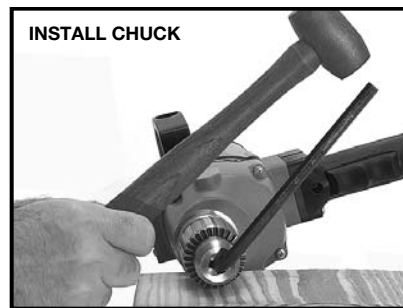

Fig. 6
5. **INSTALL CHUCK:** Open jaws of replacement chuck as wide as possible. Thread chuck by turning chuck clockwise. Hand tighten. Install hex wrench in chuck (see Step 4). While supporting chuck on a solid surface, position hex wrench to the right (see Fig. 6) and strike a sharp blow with a hammer to seat chuck onto spindle.